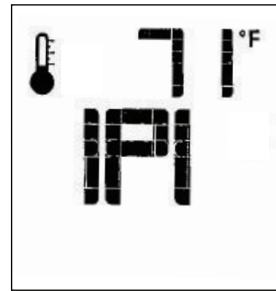
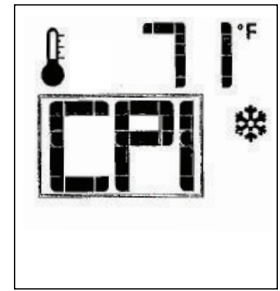

Figure 62. IPI is the default position.
Figure 63. CPI ON.
- With the transmitter in the OFF position, press the transmitter Mode key - IPI is the default mode. Fig. 62. Press the Up arrow to index to the CPI icon and activate the Continuous Pilot Ignition mode. Fig. 63. Pressing the Down Arrow Key will return to Intermittent Pilot Ignition. A single “beep” will confirm reception of the command.